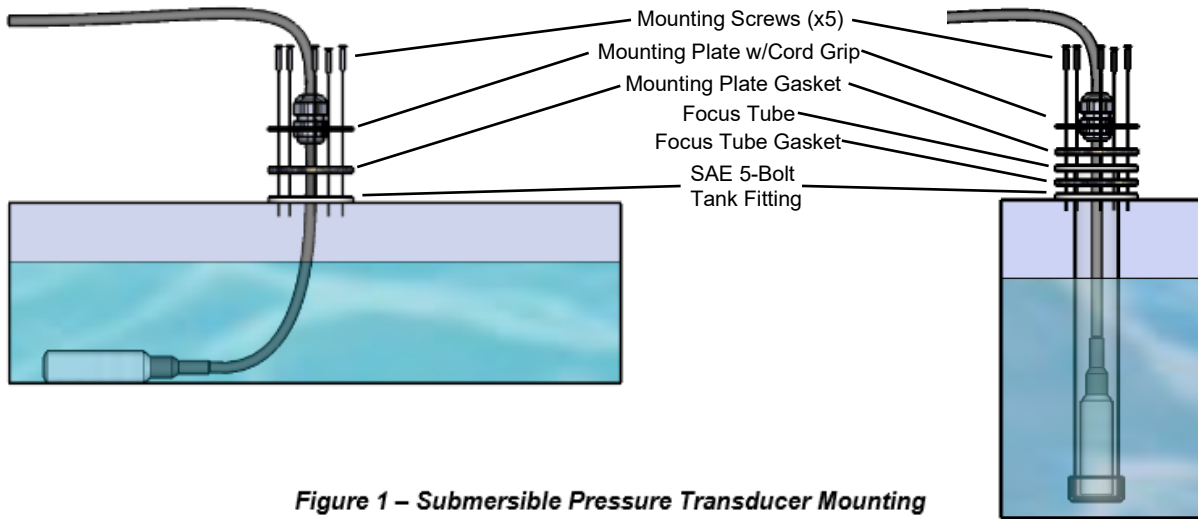

Figure 1 – Submersible Pressure Transducer Mounting
Maretron's submersible pressure transducers are used for indicating tank levels and can be installed directly in the tank. Please follow these instructions to mount and connect a submersible pressure transducer to an NMEA 2000® network via a Maretron FPM100 Fluid Pressure Monitor. Maretron recommends one of two methods for mounting a submersible pressure transducer in a tank: 1) without a restraining tube (shown on left side of Figure 1) and, 2) with a restraining tube (shown on right side of figure 1).
- Lower the pressure transducer into the tank such that the transducer lies at the lowest point of the tank and tighten the cord grip to secure the cable. On a tank with a flat bottom, the transducer may slide from side to side with the motion of the vessel but will not rotate due to the stiffness of the cable. It is also possible to mount the pressure transducer inside a restraining tube or focus tube (sold separately, Maretron part number TFT-5H). Please refer to Figure 1 for examples.
- Connect the two wires of the pressure transducer to a free pressure monitoring channel as shown in Figure 2 below. The diagram shows a connection to FPM100 channel #0, but connections to other channels are similar. Connect the red wire from the pressure transducer to the positive (+) terminal of the channel and connect the black wire from the pressure transducer to the negative (-) terminal of the channel. The example in Figure 1 shows the pressure transducer connected to switch channel 0 with the white wire connected to "P0+", and the brown wire connected to "P0-". Submersible pressure transducers have a small plastic vent tube in the connecting cable.